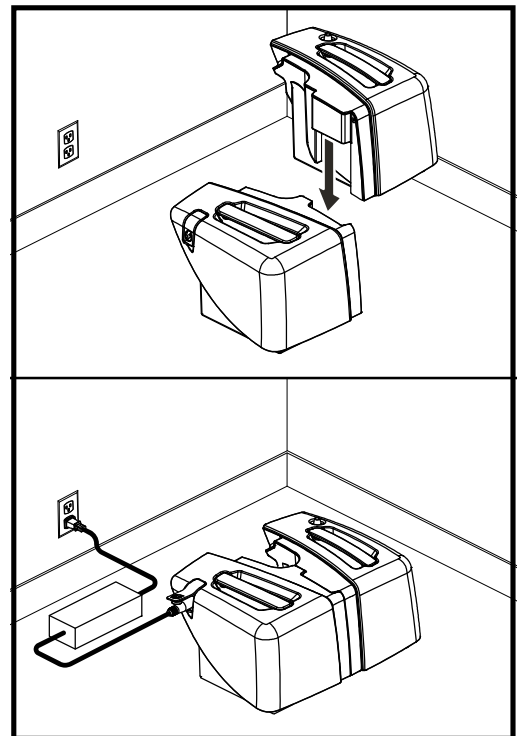

Figure 19. Battery Box Charging (Models 66 and 67)
*NOTE: Models 66 and 67, both battery boxes can be removed from the scooter and then attached together for easy charging. See Figure 19.*